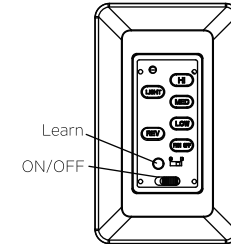

Fig. 30
**Step 1.** After installation is complete, press the LEARN button for 3 seconds within 30 seconds once AC power is turned on. Fan will turn on at medium speed and light (if installed) will turn on. This confirms that the SMART SYNC setting is active and ok. (Fig. 30)
Restore power to ceiling fan and test for proper operation (Fig. 30)